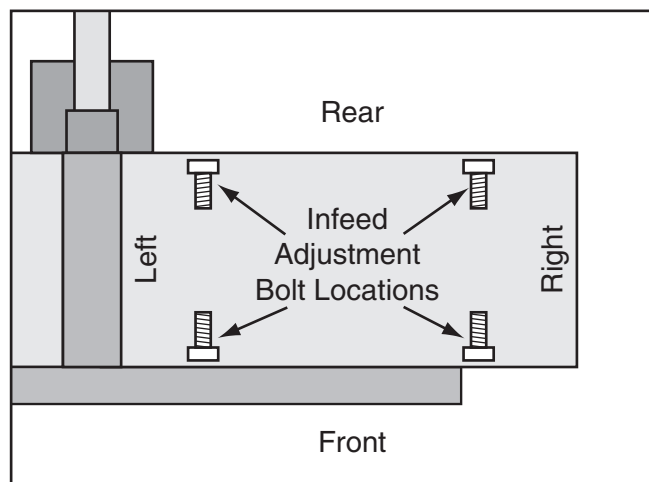

Figure 73. Locations of the infeed table adjustment bolts.
5. Use the same process you performed in **Step 9** on **Page 46** to raise or lower the left or right end of the infeed table to eliminate the gaps. Adjust the adjustment bolts equally on each side for the targeted end of the table, one after the other, in very small increments (see **Figure 73**).